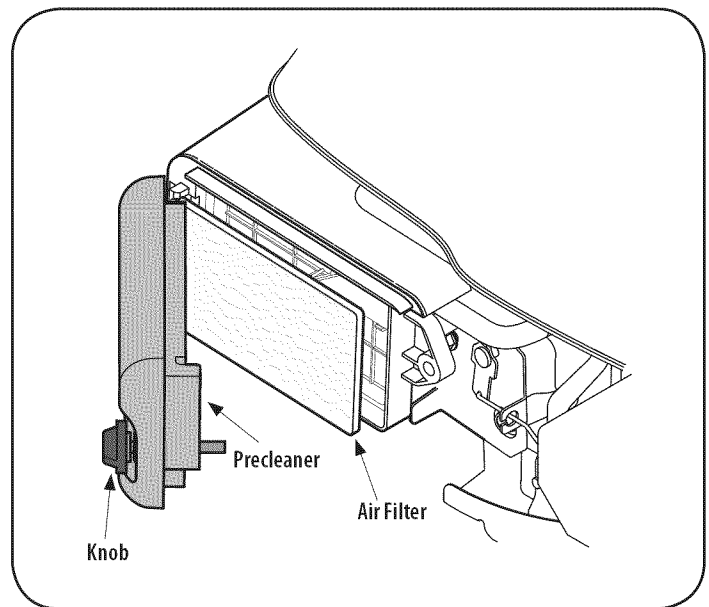

Figure 16
1. Loosen knob and remove air cleaner cover. See Figure 16.